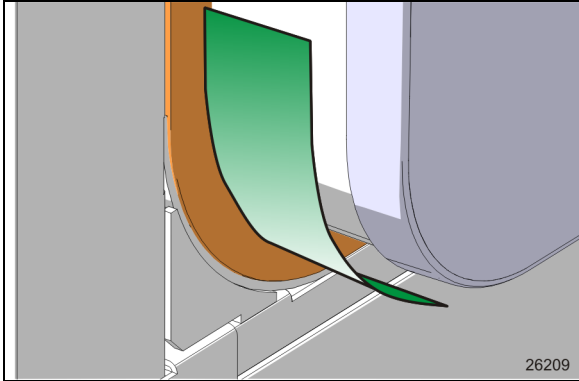

FIGURE 20: PLASTIC SHEET -WIPER SEAL PROTECTION
11. Protect the wiper seal by inserting a polypropylene plastic sheet between the room and the wiper seal. Do this on both bottom corners (Figure 20). This will distribute the compression of the wiper seal on a wider zone and prevent the room exterior panel corner from binding or pulling on the wiper seal.